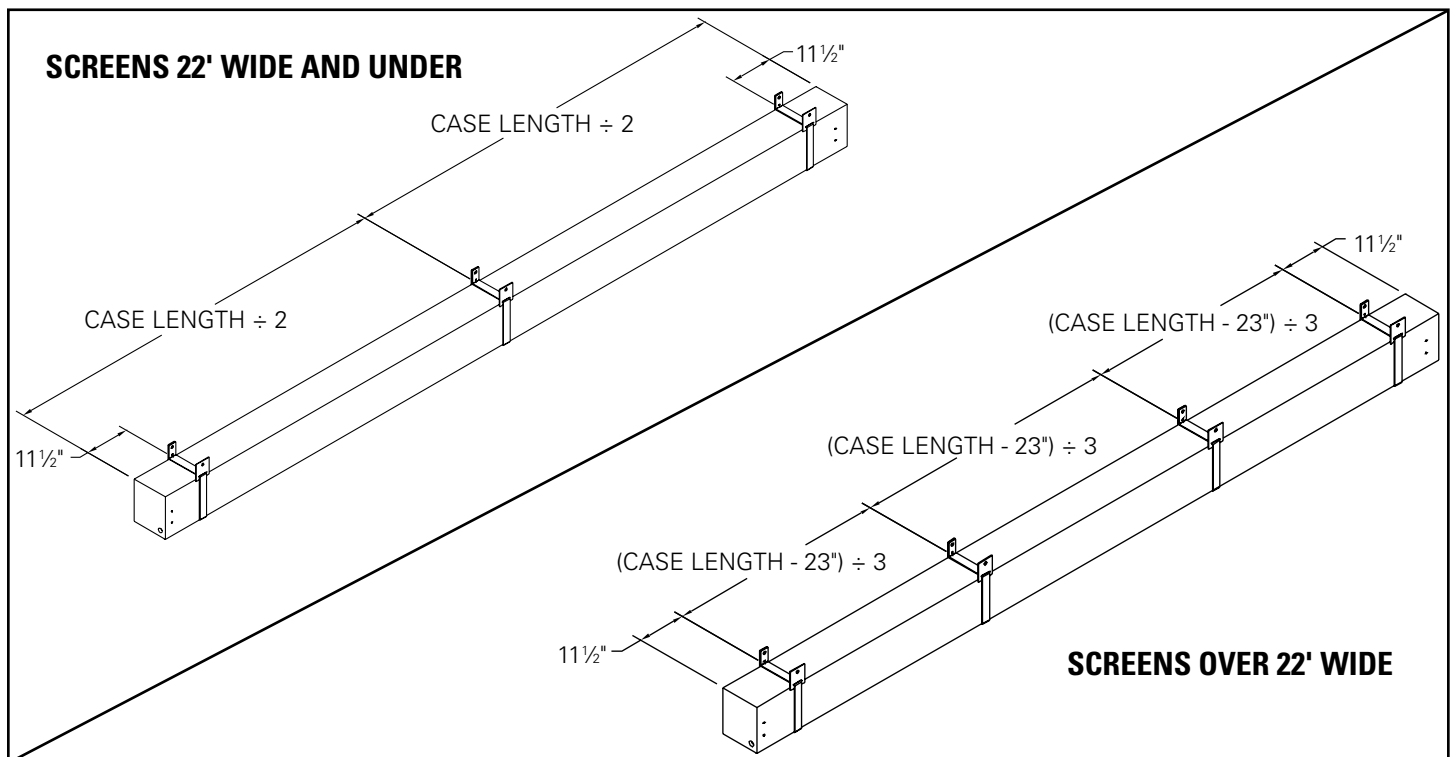

FIGURE 3
1. See Figure 3 for hanger placement.